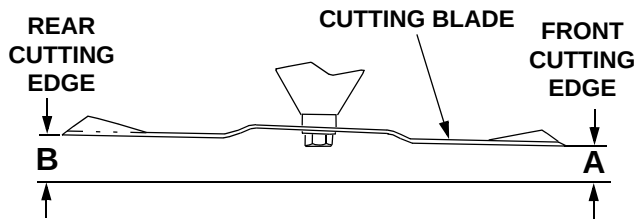

Figure 5-9
- Refer to Figure 5-9. Measure and record the distance from the front cutting edge to the ground (measurement A), and from the rear cutting edge to the ground (measurement B), for each of the blades. The front edge of each blade (measurement A) should be lower than its back edge (measurement B) by 1/8 to 1/4 inch.